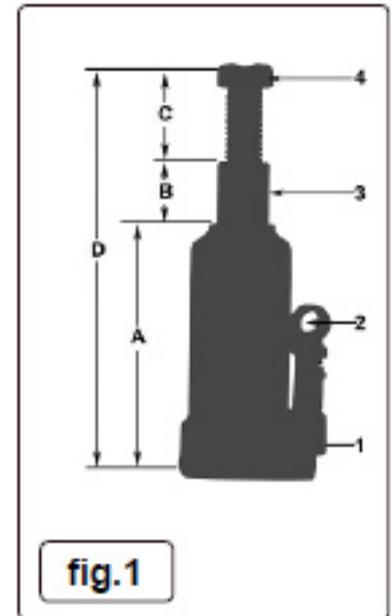

fig.1
In the table below the dimensions are cross-referenced to fig.1.
In the table above the dimensions are cross-referenced to fig.1 overleaf.
- 4.1. Before using the jack, purge the hydraulic system, in order to eliminate any air that may have accumulated during transit, referring to fig.1 as follows:
- a) Fit jack handle over release valve (1) and turn anti-clockwise to open valve.
- b) Insert jack handle into the handle sleeve (2) and pump several times to ensure full internal lubrication and to bleed air from the system.
- c) Fit jack handle back over the release valve (1) and turn clockwise to close.